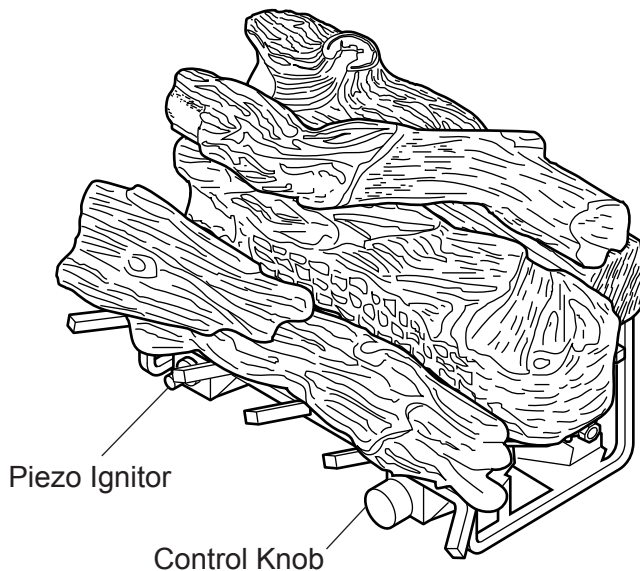

Figure 27 - Location of Piezo Ignitor and Control Knob on Manual and Thermostat Unit
4. See Figure 27, page 26 for the location of the piezo ignitor and control knob. Push in gas control knob slightly and turn control knob clockwise to the OFF position.